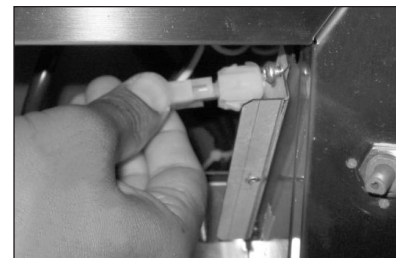

Fig. 03
3. Connect the IR lamp wiring to the lamp connector (Fig. 03). Carefully install IR panel using screws from step 2.